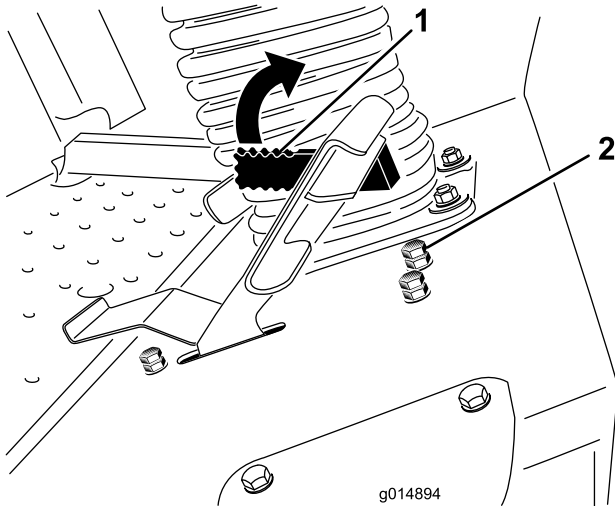

Figure 52
The speed limiter lever (Figure 52) can be flipped forward to limit the traction speed while operating.
- Loosen the jam nut on the speed limiter stop bolt (Figure 52).